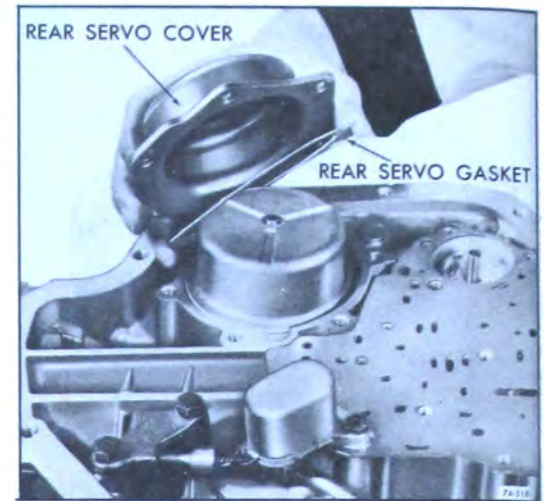

Figure 74-518
1. Remove rear servo cover attaching bolts, servo cover and gasket. (Discard gasket). See Figure 74-518.